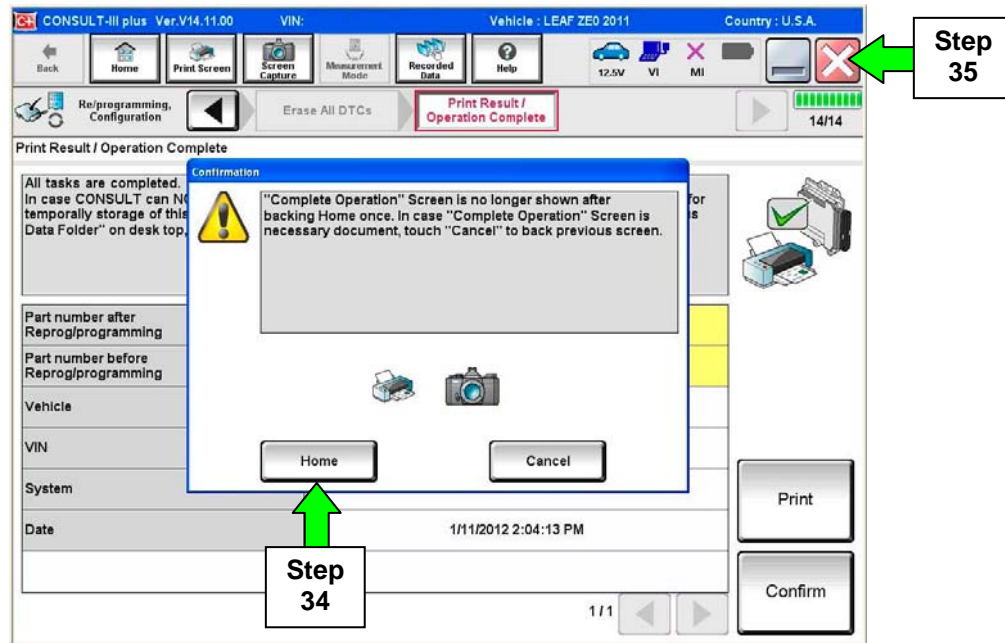

Figure 23
35. Close C-III plus by selecting “X” (see Figure 23).